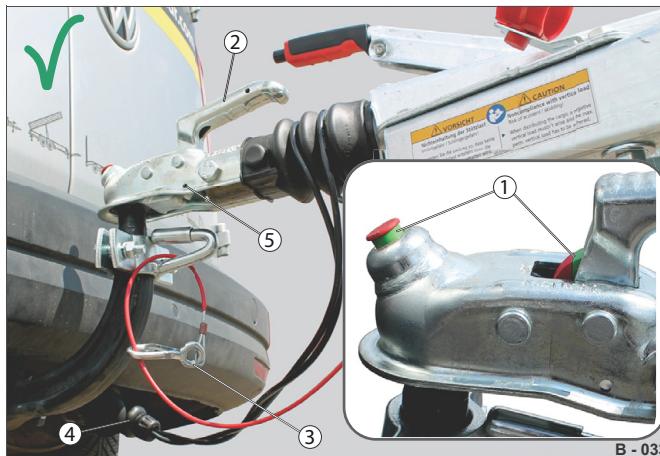

Fig. 9 Example: coupled braked trailer
- Pull the handle (Fig. 9 /2) all the way up. The ball head coupling is open.
- The green cylinder on the safety display (Fig. 9 /1) is visible.